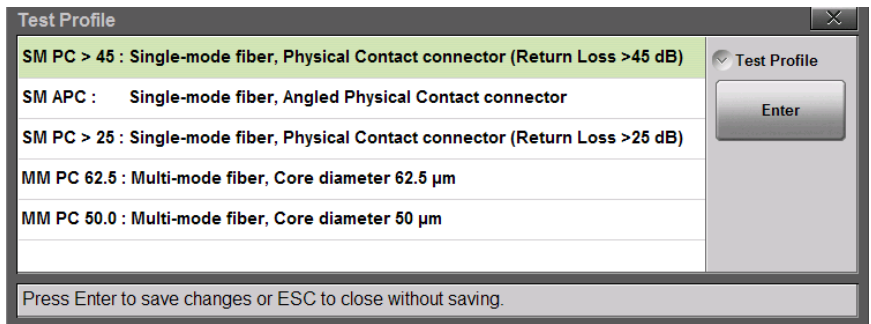
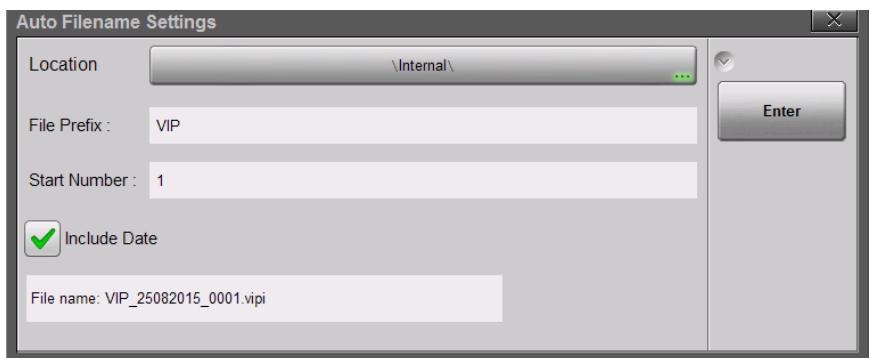

Figure 15-3. VIP Test Profile Selection Box
Figure 15-4. Auto Filename Settings Dialog
6. Press the **Auto Filename Settings** submenu key to open the dialog box shown in Figure 15-4. Press the **Location** bar to change the save location. To edit the file prefix or the starting number, press the appropriate text box. You may also include the current date.
<p>Probe Model: This submenu key shows the currently selected probe model. Press the key to display the list of supported VIP models from which you can select.</p> <p>Tip Type: Press this submenu key to display the Tip Type selection box. Use the rotary knob or the Up/Down arrow keys to highlight the appropriate probe tip, then press Enter to save the setting. See Table 15-1 on page 15-3 for a list and description of possible selections.</p> <p>To close the Tip Type dialog without making a change, press the Esc key.</p> <p>Test Profile: Press this submenu key to select a profile that matches the type of fiber being tested. Use the rotary knob or the Up/Down arrow keys to highlight the appropriate probe tip, then press Enter to save the setting. See Figure 15-3 on page 15-5.</p> <p>Auto Analyze On/Off: When set to On, the fiber endface image is automatically analyzed following capture. Select Auto Analyze Off if you want to view the image before manually executing the analysis.</p> <p>Auto Filename On/Off: If Auto Filename is On, the file naming scheme currently defined in the Auto Filename Settings dialog is applied when you press the Save icon. With Auto Filename Off, pressing the Save icon opens the Save dialog the same way as pressing Save under the File menu would.</p> <p>Auto Filename Settings: Press this submenu key to open a dialog box where you can preset the location and name of files to be saved. See Figure 15-4 on page 15-5. You can define a prefix (VIP is the factory default) and set the starting number from which file numbering will increment. You may also choose to include the current date in the file name, in the format DDMMYYYY. For example:</p> <p style="padding-left: 40px;">VIP_0001.vipi VIP_21082015_0001.vipi</p>